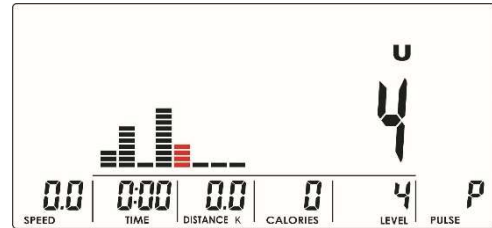

Fig. 016
2. Use the UP or DOWN buttons to set the resistance level (Fig. 016). The training is divided into 8 stages, each represented by a different column. You can adjust the resistance level for each column.